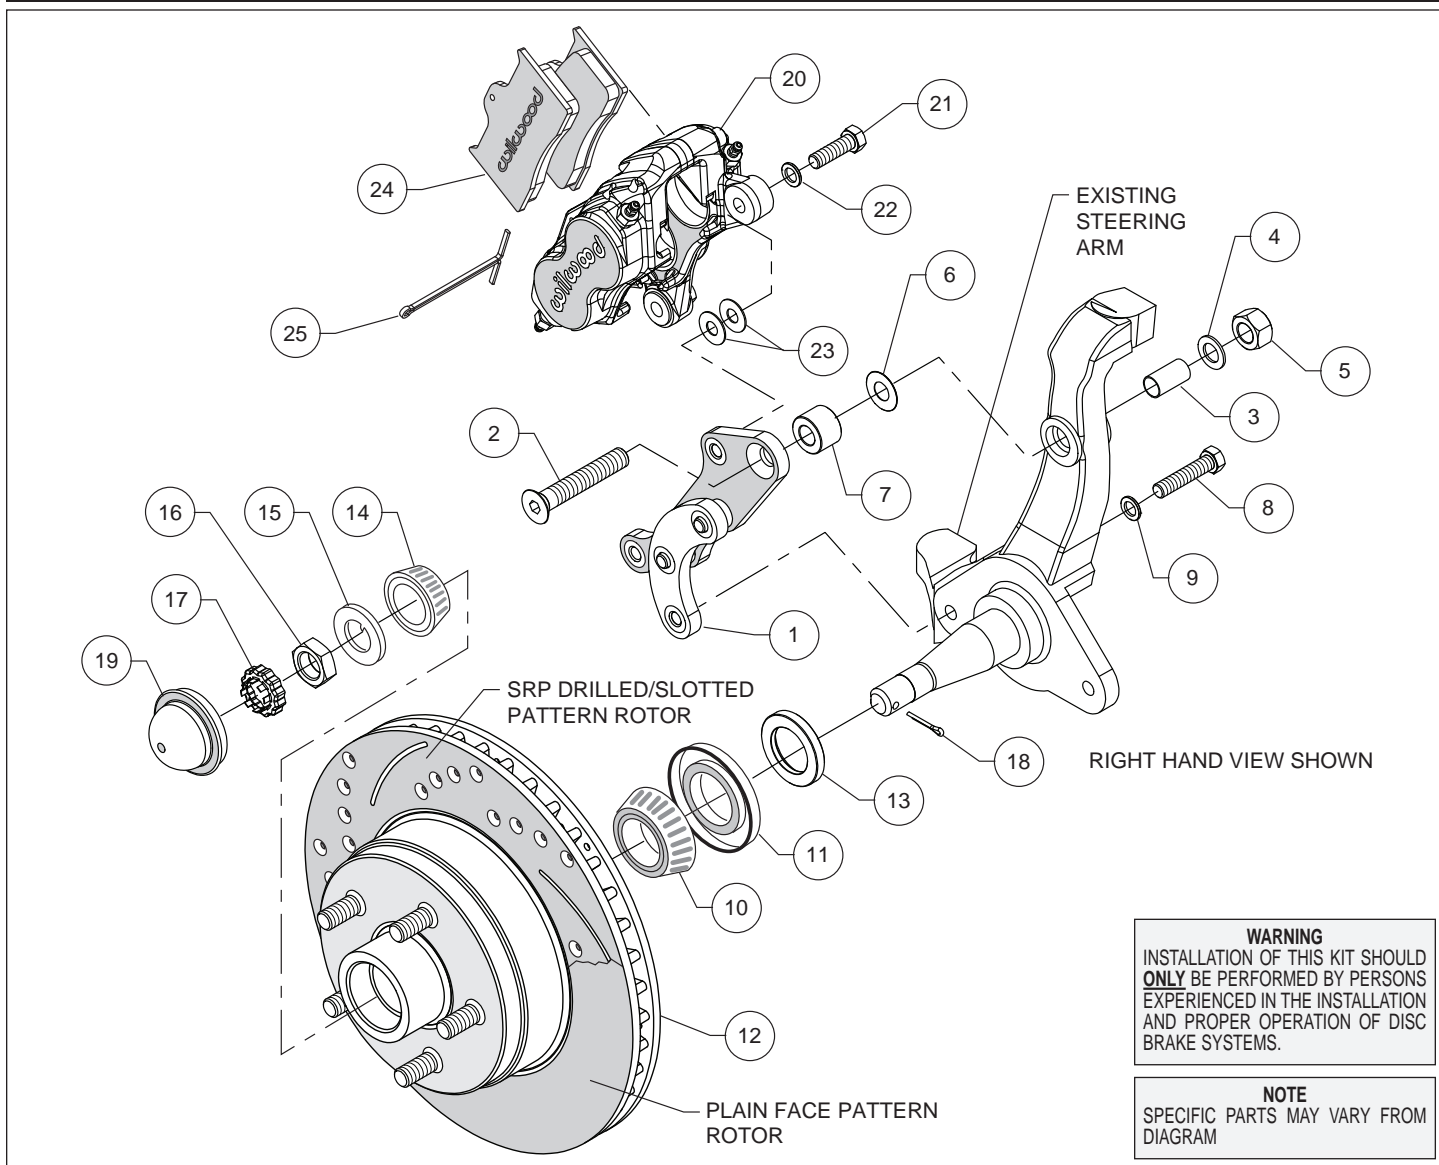
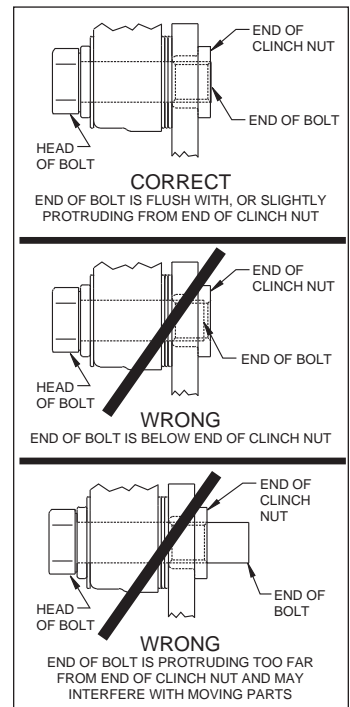

Figure 1. Typical Installation Configuration
Figure 3. Clinch Nut Engagement Diagram
Assembly Instructions (numbers in parenthesis refer to the parts list and Figure 1 on the preceding pages): **CAUTION:** All mounting bolts must fully engage clinch nuts. Be sure to check that all bolts are either flush or protruding through flanged side of clinch nut after shimming, Figure 3.
- The caliper bracket (1) should initially be installed with clean, dry threads on the mounting bolts. The bracket has been assembled at the factory for alignment purposes. Loosen the two bolts that secure the brackets together so that the bolts are hand tight only. This will enable the bracket assembly to be adjusted to accommodate various spindle tolerances during assembly. Insert sleeve (3) into top mounting hole on the spindle, Figure 1. Orient the bracket as shown in Figure 1 and install using bolt (2), washer (4), nut (5), in the upper hole. Place a .711" thick spacer (7) positioned between the bracket and spindle, as shown in Figure 1 and Photo 1. Initially use one .032" thick shim (6) on the upper bolt between the bracket and spindle, Figure 1. Install bolt (8) and washer (9) in the lower hole, Figure 1. Temporarily tighten the mounting bolts, followed by the two bracket-to-bracket bolts. **NOTE:** The bracket must fit squarely against the mounting points on the spindle. Inspect for interference from casting irregularities, machining ridges, burrs, etc. Later, after the bracket alignment has been checked, the bolts will be secured using red *Loctite*® 271.
- Pack the large inner bearing cone (10) with high temperature disc brake bearing grease (available from your local auto parts store) and install into the backside of the hub (12), Photo 2.
- Install the grease seal (11) by pressing into the backside of the hub (12), flush with the end of the hub.
- Slide the hub/rotor spindle spacer (13) onto the spindle. Ensure the chamfered I.D. faces inward, Photo 3.
- Temporarily install the hub/rotor (12) onto the spindle. Check that the caliper mounting bracket (1) is aligned parallel to the rotor, Photo 4. If not, adjust by adding or subtracting shims (6) on the upper bolt between spacer and spindle, Figure 1. Once the bracket alignment is correct, remove upper bolt, apply red *Loctite*® 271 to the threads, and torque to 77 ft-lb. Remove the lower bolt, apply red *Loctite*® 271 to the threads, and torque to 40 ft-lb.
- Remove hub/rotor and pack the small outer bearing cone (14) with high temperature disc brake bearing grease and install into the front side of the hub (12). Slide the hub/rotor onto the spindle. Secure using spindle washer (15), and spindle nut (16). Adjust bearings per OEM specifications. Install spindle nut retainer (17) and a new cotter pin (18), Photo 5.
- Press the dust cap (19) into the hub (12), Photo 6.
- NOTE:** Please reference the caution statement at the beginning of the assembly instructions. Mount the caliper (20) onto the caliper mounting bracket (1) using bolts (21) and washers (22), as shown in Figure 1. Initially place two .035" thick shims (23) on each bolt between the caliper and the bracket, Photo 7. Temporarily tighten the mounting bolts and view the rotor (12) through the top opening of the caliper. The rotor should be centered in the caliper, Photo 8. If not, adjust by adding or subtracting shims between the bracket and the caliper. Always use the same amount of shims on each of the two mounting bolts. **NOTE:** The end of each bolt must be flush with or slightly protruding from the head of the clinch nut, as shown in Figure 3. If necessary place spare shims between washer (22) and caliper mounting ear to achieve the proper clinch nut engagement. Once the caliper alignment and clinch nut engagement are correct, remove the bolts one at a time, apply red *Loctite*® 271 to the threads, and torque to 40 ft-lb.
- Install the disc brake pads (24) into the caliper, with the friction material facing the rotor (12), Photo 9. Secure in place using cotter pin (25), Photo 10.